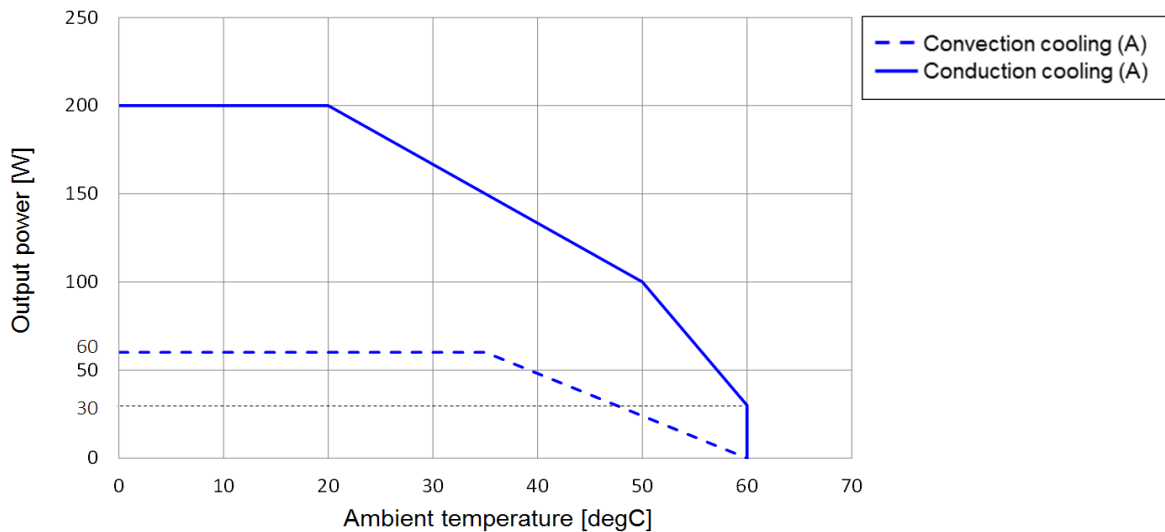

Fig 2.5 Conduction cooling at (A) mounting
The derating curve comparison between conduction cooling and convection cooling (A) mounting is shown in Fig 2.5.